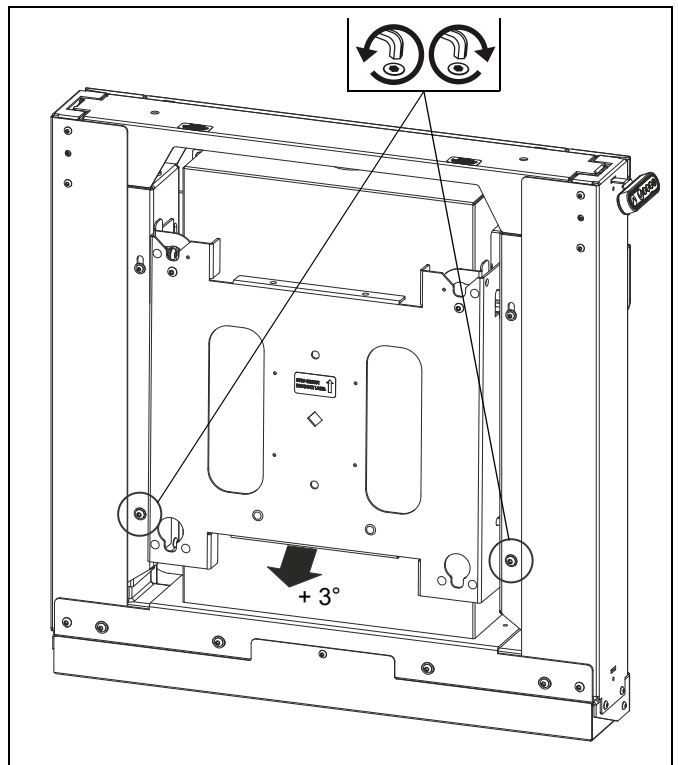

Figure 40
2. Adjust plumb adjustment screws as desired to adjust plumb $+ 3^\circ$. (See Figure 40)